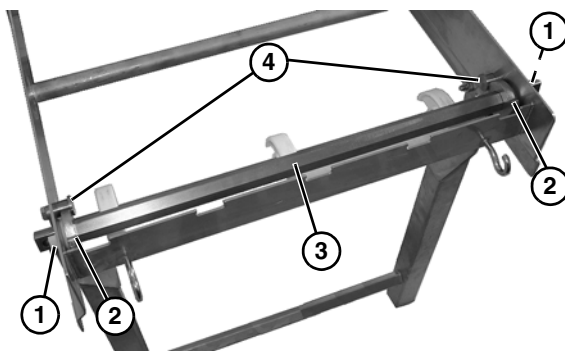

Figure 14
- Slide the tip up sleeves (**Figure 14, item 1**) and stop keys (**Figure 14, item 2**) outward on hex shaft assembly (**Figure 14, item 3**) until the sleeves seat in the holes of the frame and stop keys are seated against frame stops (**Figure 14, item 4**).